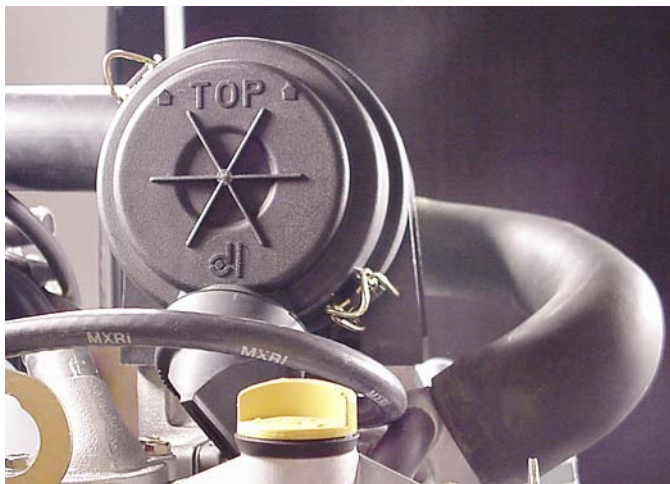

Fig. 180
8. Install air cleaner cover with arrows facing up, Fig. 180.